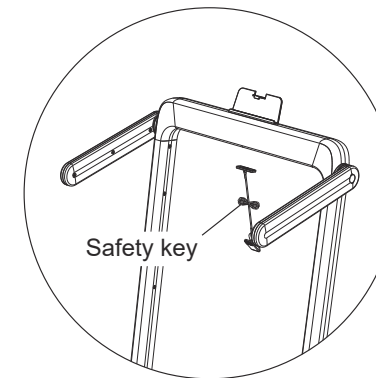

Figure 1
2. Unplug the safety key on the treadmill (as Figure 1), hold the remote control and align with the treadmill display window (as Figure 2) within 10 seconds, and press the start/stop button on the remote control for about 3 seconds, then the system will appear "didi..." 2 sounds, on behalf of the remote control and treadmill pairing success, you can normally use the remote control to control the treadmill.